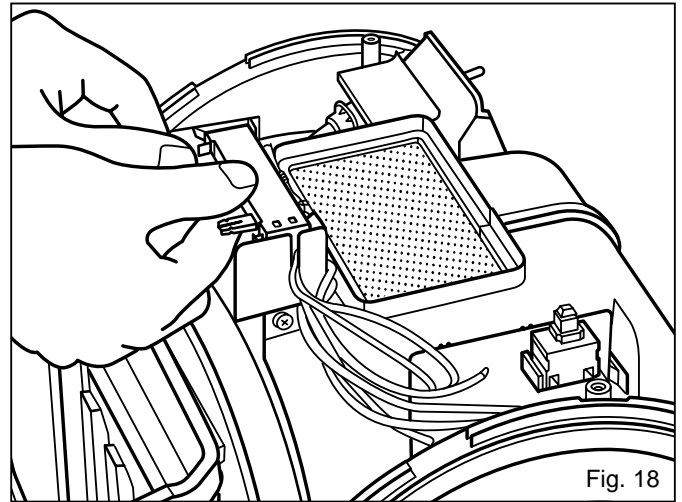

Fig. 18
4. Reinstall the potentiometer in its support and reassemble the remaining parts in the reverse order. (Fig. 18)